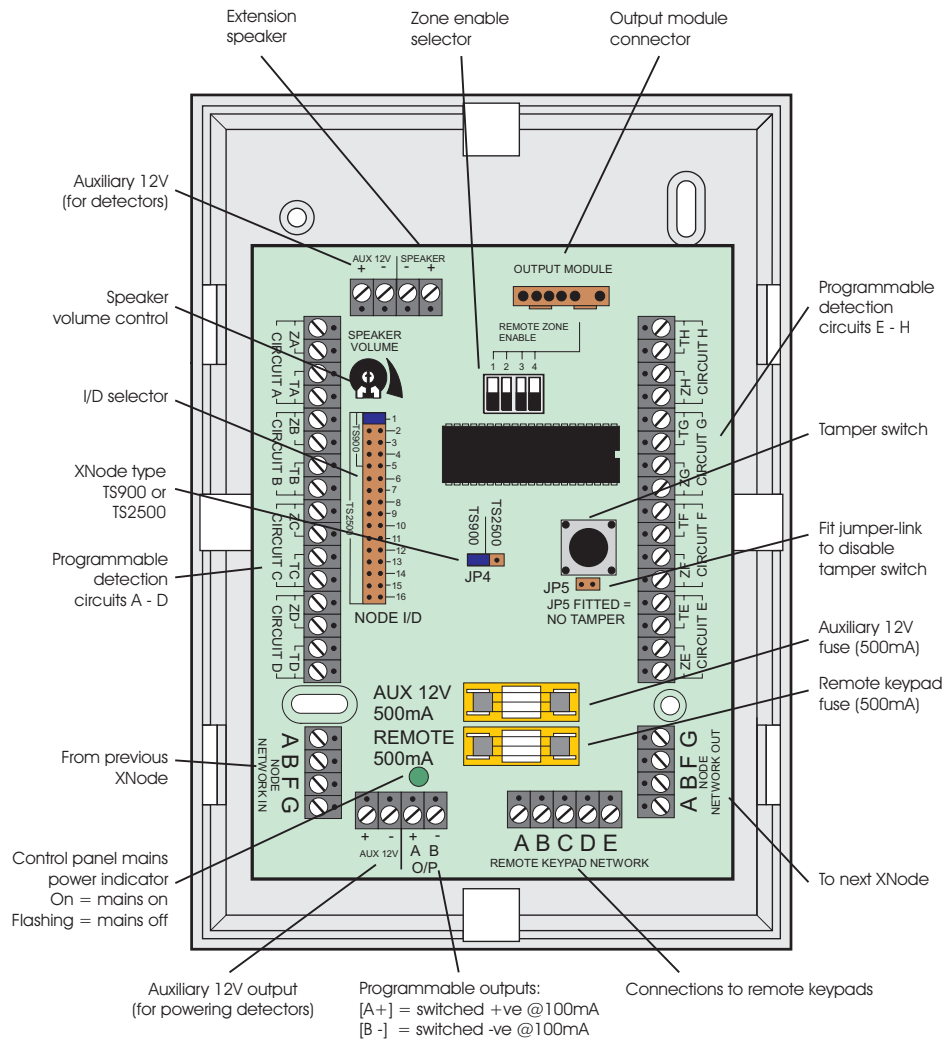

Figure 14. XNode Layout
2. If the XNode is being fitted inside the control panel you may remove the XNode PCB from its base and secure it to the base of the control panel using self adhesive feet. If required, the tamper switch can be disabled by fitting the jumper link across JP5, see *Figure 14*.
6. If required, connect the extension loudspeaker to the appropriate terminals. The volume of the speaker is controlled by the speaker volume control, see *Figure 14*.